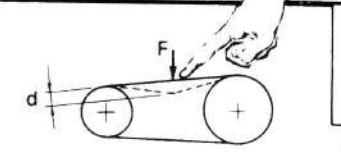

FIG 17
- Drive belts require a precise tensioning of the belt because at low values there are slippings on the pulley causing overheating, and rapid wear of the belt. High values cause excessive load on the bearing causing fast wear of the same and motor over heating. The correct tension value is obtained pushing with a screwdriver on the intermediate area and you obtain a deflection of 1 cm. (fig. 17).